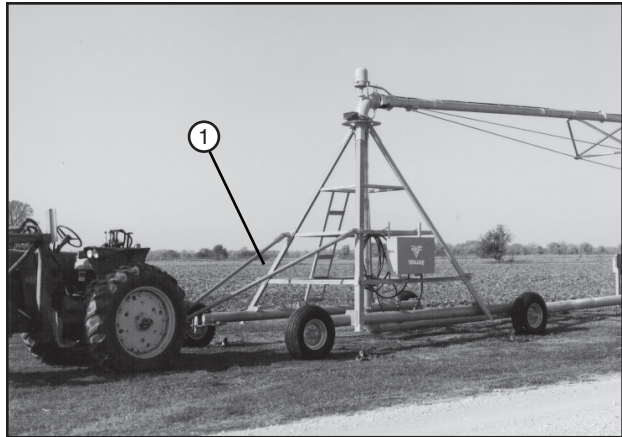

Figure 62-1 1. Tongue
18. After the pivot and drive units have been prepared for towing, hook tongue to the towing unit. See figure 62-1.